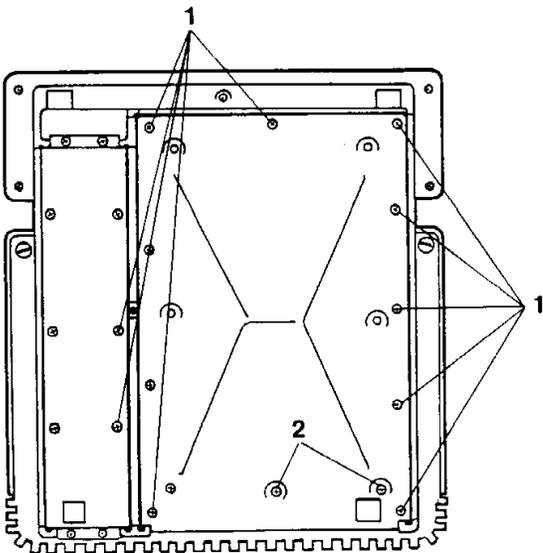

FIGURE 7
9. Put the entire logic assembly panel in place and tighten down the 12 Phillips screws on the logic assembly access panel. (See Figure 7, Items 1 and 2).